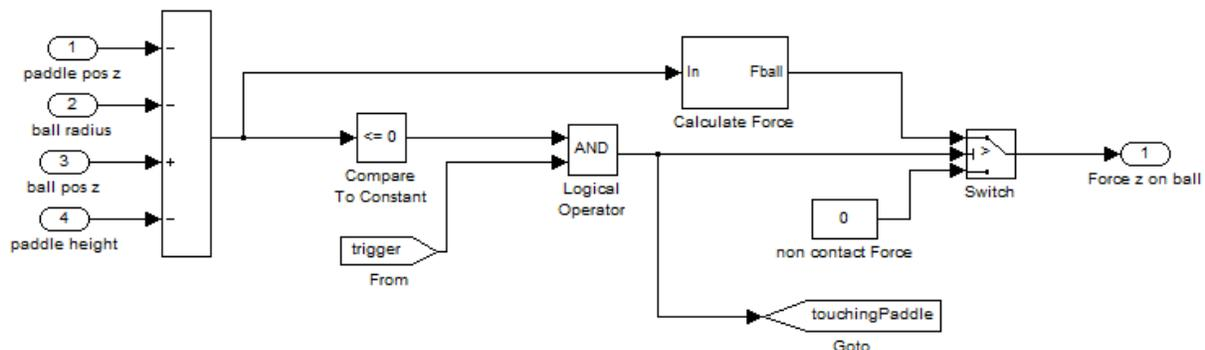

Figure 12.5: **PD Contact Paddle** model
4. Double click on **PD Contact Paddle** subsystem to look underneath it. The model is shown in Figure 12.5